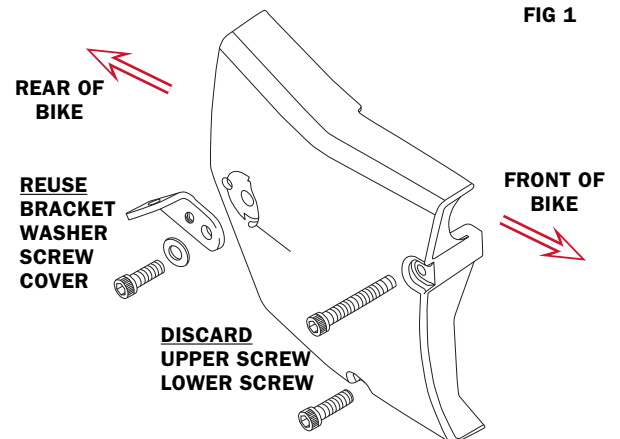

FIG 1
STEP 3 Refer to FIG 1. Remove the screw, washer, and the exhaust pipe clamp bracket from the sprocket cover. Set them aside as they will be reused.
STEP 4 Refer to FIG 1. Remove the upper and lower screws connecting the sprocket cover to the motorcycle. Set aside they will **NOT** be reused.